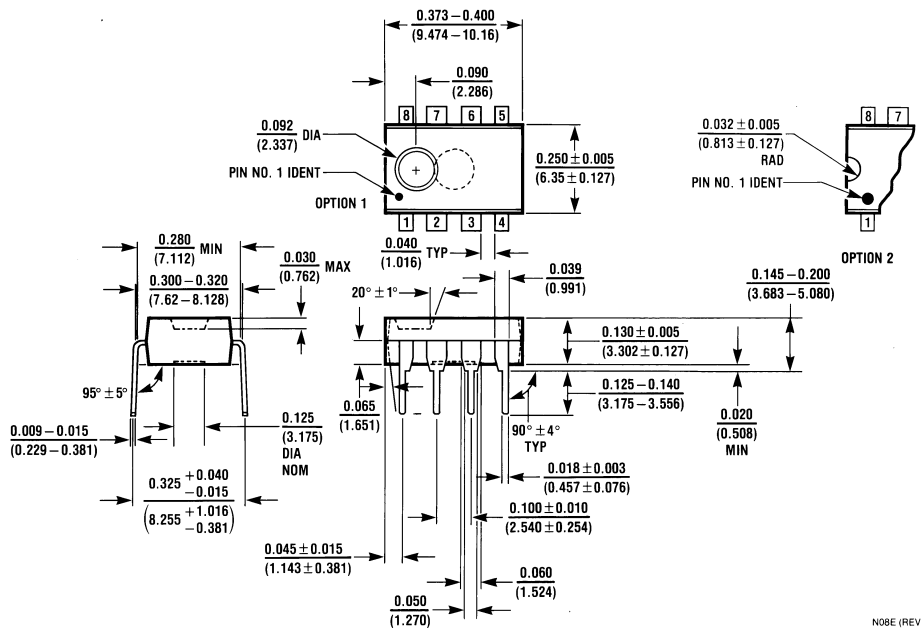

**FIGURE 19. Slew Rate Resistor
The slew rate control is located at pin two of the device and only controls the driver output edges. The slew rate control pin (SR) may be left open or shorted to ground, with or without a resistor. When the SR pin is shorted to ground without a resistor, the driver output edges will transition typically 350 ns . When the SR pin is left open, the driver output edges will transition typically $3\text{ }\mu\text{s}$. When the SR pin is shorted to ground with a resistor, the driver output edges will transition between 350 ns and $3\text{ }\mu\text{s}$ depending on the resistor value. Refer to the slew rate versus resistor value curve in this datasheet for determining resistor values and expected typical slew rate value. Please note, when slowing the edge rates of the device (see Figure 19) will decrease the maximum data rate also.